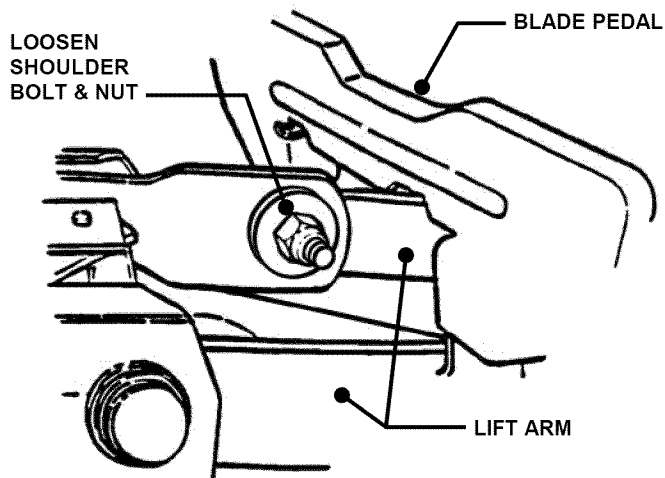

FIGURE 4.3
6. Loosen the shoulder bolt & nut that retains the left side of blade pedal. See Figure 4.3.
7. Move lift arm up or down as required until blade tips are within $1/8"$ of each other. See Figure 4.3.